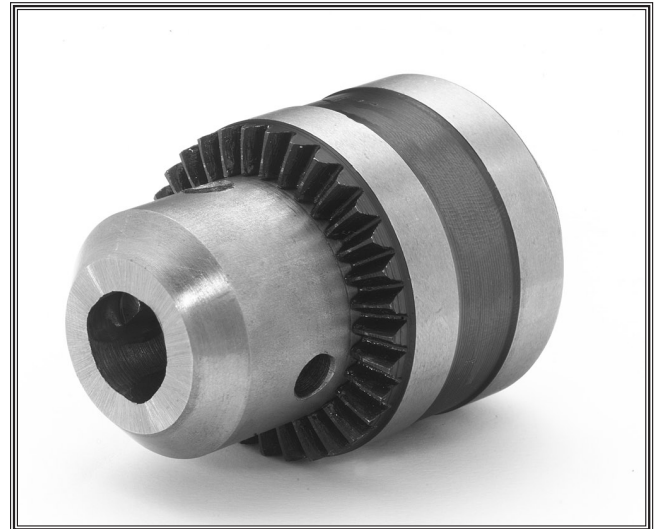

Figure 19. Jaws adjusted inside chuck body.
2. Use the provided chuck key to adjust the jaws of the chuck until they are well inside the drill chuck body (see **Figure 19**).